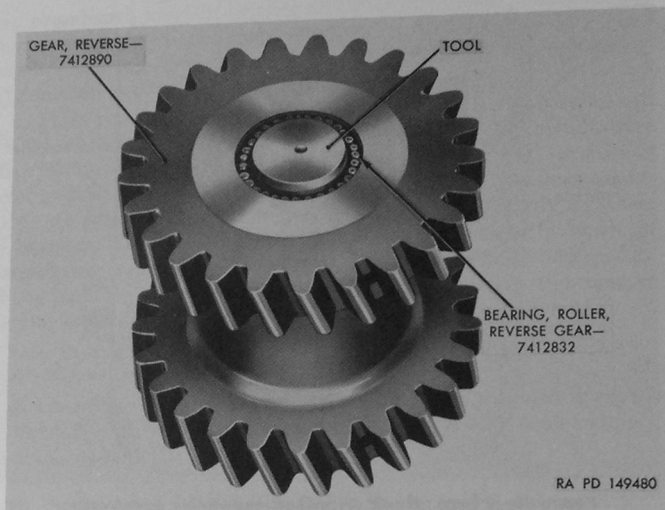
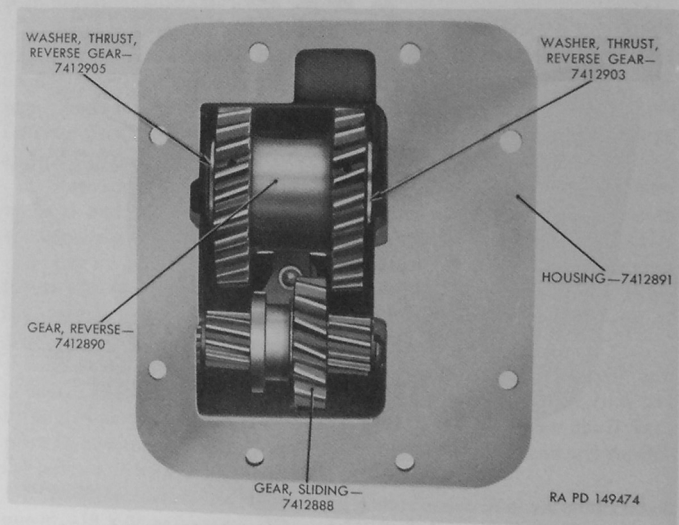

Figure 94. Assembling rollers in reverse gear.
Figure 95. Power take-off reverse gear installed.
*a.* Remove reverse shaft retaining plate (T) attached to power take-off housing with cap screw and lock washer.
*b.* Using hammer and brass drift, drive reverse gear shaft (U) forward, and remove from housing. Remove reverse gear and reverse gear thrust washers (fig. 95) together with reverse gear roller bearings (Z), reverse gear bearing thrust washers (W), and reverse gear bearing spacer (X).
*a.* Coat reverse gear thrust washers and bore of reverse gear (Y) with universal gear lubricant (GO).
*b.* Set reverse gear (Y) on end on work bench. Using a tool made of metal or wood approximately 1.100-inch in diameter and long enough to extend through gear, assemble 30 reverse gear roller bearings (Z) around tool. Use reverse gear bearing spacer (X) to push bearings down to lower side of gear; then assemble 30 more bearings around tool as shown in figure 94.
*c.* Start reverse gear shaft (U) through boss at front side of housing with end of shaft slightly beyond inside surface of case. Locate one reverse gear thrust washer (V) on end of reverse gear shaft (U).
*d.* Lay reverse gear (Y) on side and place one reverse gear bearing thrust washer (W) against rollers at each end of reverse gear. Position reverse gear in housing as shown in figure 95. Note that end of gear with rounded teeth must be toward front of housing.
*f.* Position reverse shaft retaining plate in slot in shaft and install one  $\frac{5}{16}$ -18 x  $\frac{3}{4}$  cap screw (R) and  $\frac{5}{16}$ -inch lock washer (S) to hold retaining plate in place.